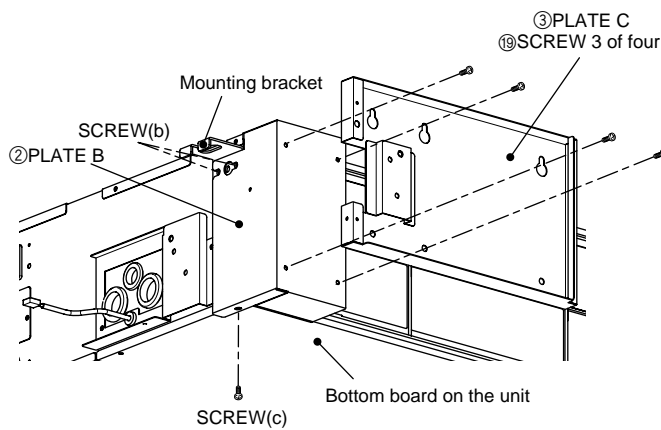

Fig. 10
- (2) Install ②PLATE B to the unit.(Fig. 10)
- (3) Install ③PLATE C to the unit with 4 screws. (Fig. 10)
- (4) After installing the components to the unit, make sure that all screws are tightened firmly.